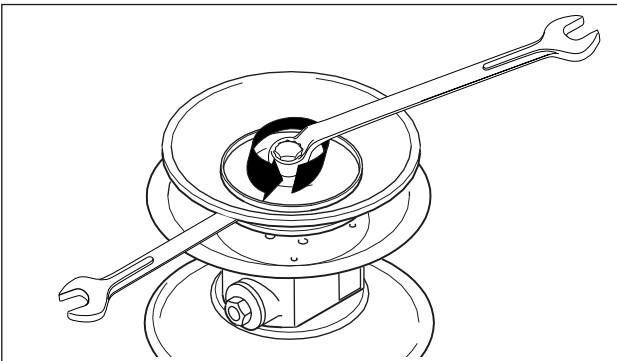
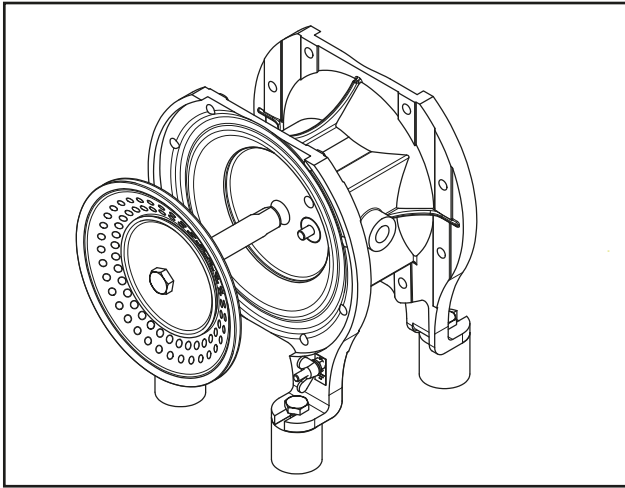

Fig. 11: Loosen the diaphragm plate. (not used for DEPA E4® compound diaphragm.)
Fig. 22: Pulling out the diaphragm with piston rod
- Loosen the outer diaphragm plate and take it off with the diaphragm (Fig. 11).
- Loosen the outer diaphragm plate and remove with the diaphragm (Fig. 11 + Fig. 22).
- Loosen diaphragm, see Fig.11 + 12